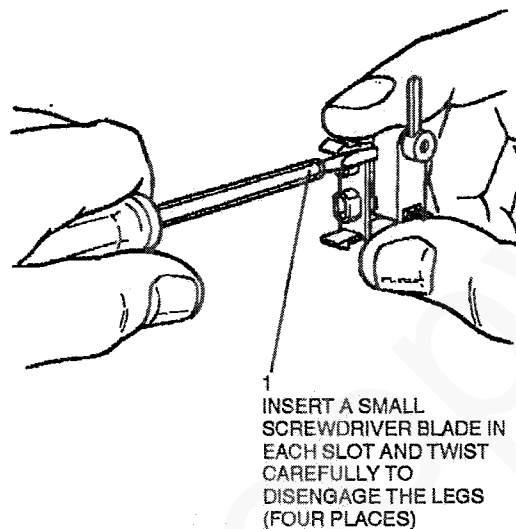

Figure 2. Paper output switch removal
3. (Figure 2) Remove the paper output switch.